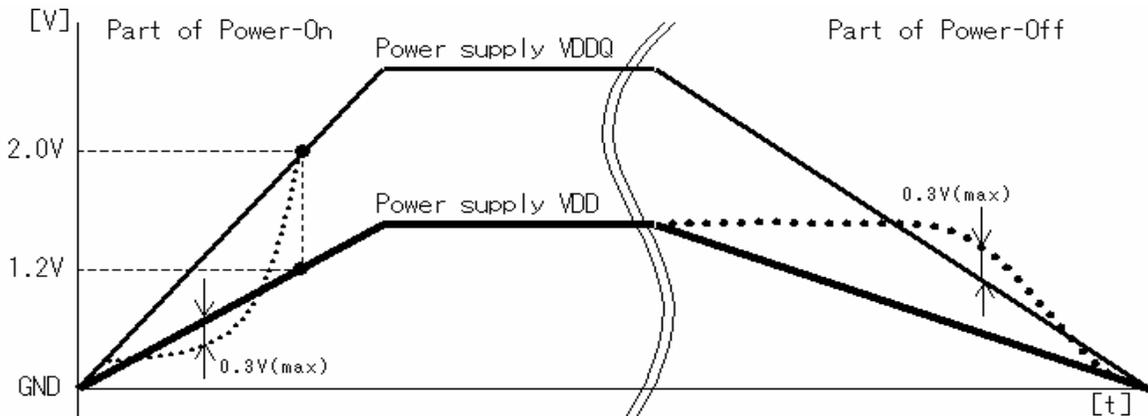

Fig.G1
- (1) Please turn on the power supply of I/O, RTC and CPG to the same timing as a power supply VDDQ.
- (2) After turning on a power supply to VDDQ or simultaneously, the input of a signal line (RESET, MRESET, MD0-MD10, external clock, and etc) must be input. If the signal lines are entered first, the LSI may be damaged.
- (3) Please turn on the power supply so that the voltage of a power supply VDD may become $VDD < 1.2V$ until the voltage of a power supply VDDQ reaches 2V to avoid the unusual frequency of the PLL1/2 circuit.
- (4) It recommends that a power supply to VDDQ is in advance, and a power supply to VDD is behind.
- (5) In addition to the above (1), (2), (3) and following (i)(ii), please follow "3. The ratings for power-on and power-off".
- (i) In the case of this LSI simple substance, the power supply sequence of a power supply to VDDQ and VDD does not have time restrictions. Please refer to Figure G {Fig. G1}. In addition, it recommends performing a power-on procedure at the shortest possible time.
- (1) Please turn off the power supply of I/O, RTC and CPG to the same timing as a power supply VDDQ.
- (2) There is no timing regulation of a signal line (RESET and MRESET).
- (3) The input level to the pin must be lowered in compliance with the I/O, RTC, CPG power supply voltage.
- (4) It recommends that turning off the I/O, RTC, CPG power supply voltage after (or at the same time as) turning off the internal power supply voltage (VDD).
- (5) In addition to the above (1), (2), (3), (4) and following (i)(ii), please follow "3. The ratings for power-on and power-off".
- (i) In the case of this LSI simple substance, the power supply sequence of a power supply to VDDQ and VDD does not have time restrictions. Please refer to Figure G {Fig. G1}. In addition, it recommends performing a power off at the shortest possible time.